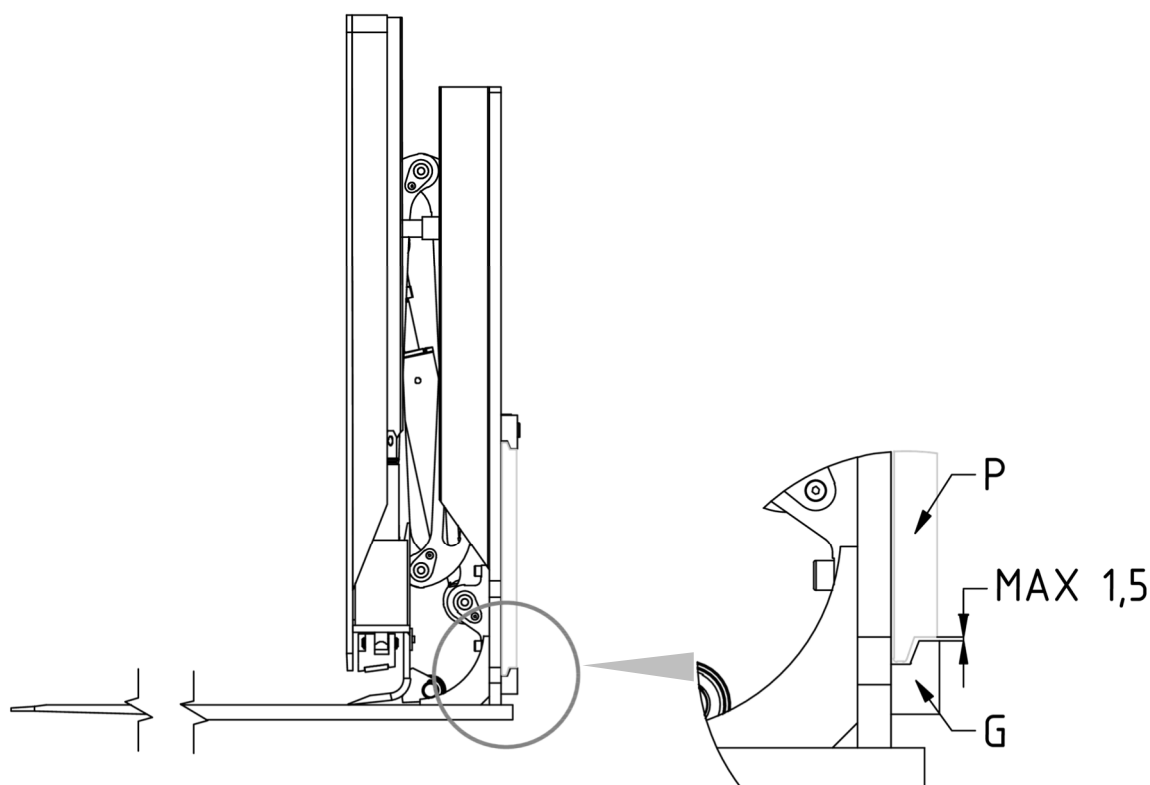

Figure 4
7. Tighten the 2 lower couplings **G** so that the body of the couplings remains coupled to the lower fork carriage plate **P** (with max. 1.5mm clearance, see detail *Figure 4*), tightening with the torque indicated in *Table 3*.
4. Check the clearance between the lower part of the fork carriage plate and the lower equipment couplings, checking that it is as shown in *Figure 4* (page 13) and, if necessary, tighten the screws that support them.